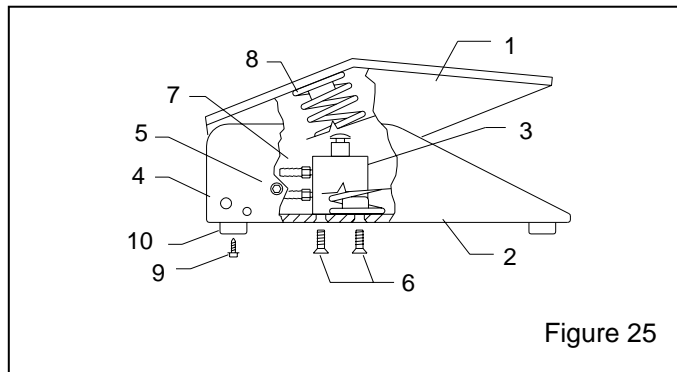

Figure 25
9.5 Foot Pedal Assembly, Figure 25